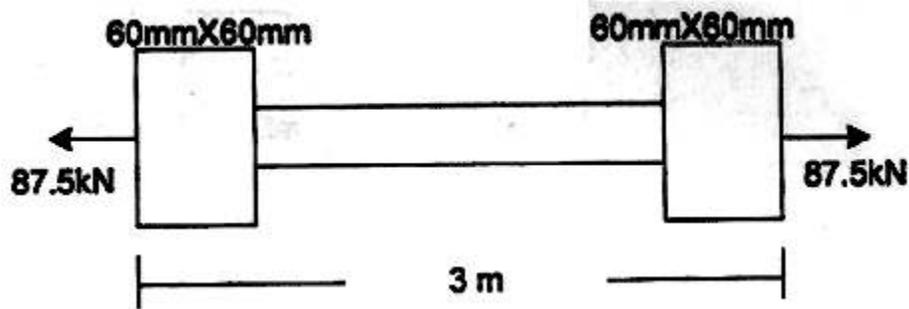

Fig. 2
- (b) A tie bar has enlarged ends of square cross-section  $60 \text{ mm} \times 60 \text{ mm}$  as shown in Fig. 2. If the middle portion of the bar is also a square section, find the size and length of middle portion if stress there is  $140 \text{ N/mm}^2$  and total elongation is  $0.14 \text{ mm}$ . Take  $E = 2 \times 10^5 \text{ N/mm}^2$ . [8]